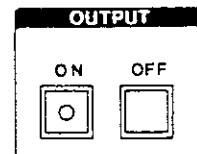

Fig. 8 Operating Output
Pressing the output control switch (6) ON produces output (according to preset value) from the output terminal. At the same time, the LED in the switch lights. Pressing the OFF switch stops output, and extinguishes the LED in the ON switch (Fig. 8).
(8) Using the guard terminal